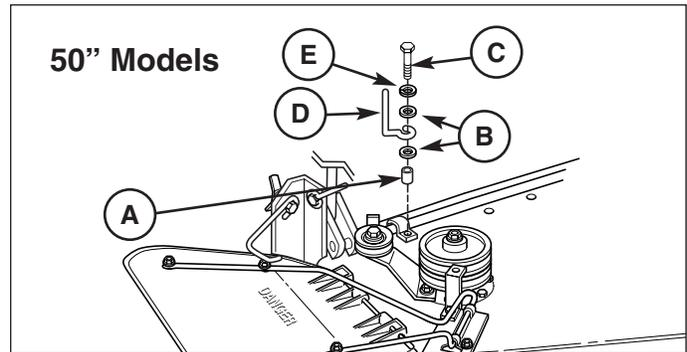

Figure 7. Install Belt Guide
1. See Figure 7 & 8. Locate the tapite screw that will be replaced by capscrew (C). Remove and discard the tapite screw
2. Assemble the 5/16-18 x 1-1/2 capscrew (C), lock-washer (E), washers (B), belt stop (D) and spacer (A).
Note The belt stop (D, Figures 7 & 8) is located and oriented differently in 44" and 50" applications. For all applications, when turbo is installed, belt stop (D) should be outside the belt 1/8" away from the backside of the belt.
NOTE: The deflector latch **MUST** secure the deflector in a down position—as shown in Figure 7.